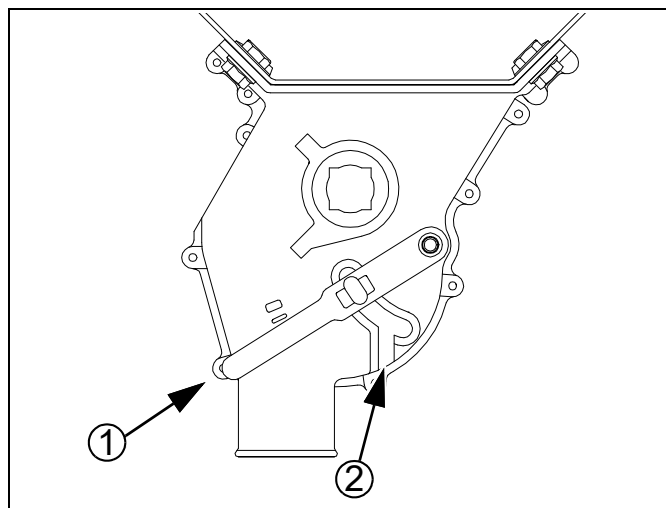

Figure 67
Refer to Figure 67, which depicts the seed cup door handle ① in a normal operating position.
1. Set the Seed Rate Handle to zero (0) for the section of the drill to be cleaned out. This moves the seed cup sprockets out of the seed path.
3. At the seed cup for that row, pull the door handle ① out of the operating detent range, and swing it down to position ②.